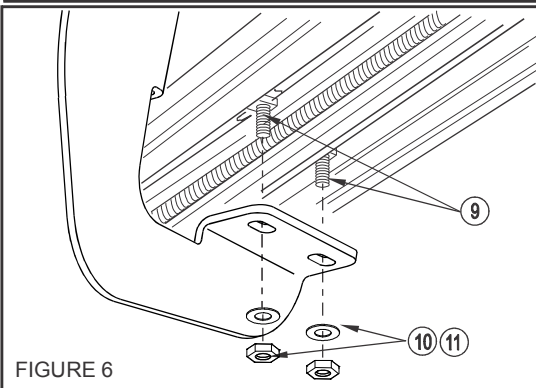

FIGURE 6
- STEP 6. Attach board to brackets as shown. Make sure board and brackets are properly aligned and tighten fasteners. Recommended torque values are 10 Ft.Lbs. For 5/16" hardware and 22 Ft.Lbs. For M8 hardware. SEE FIGURE 6.